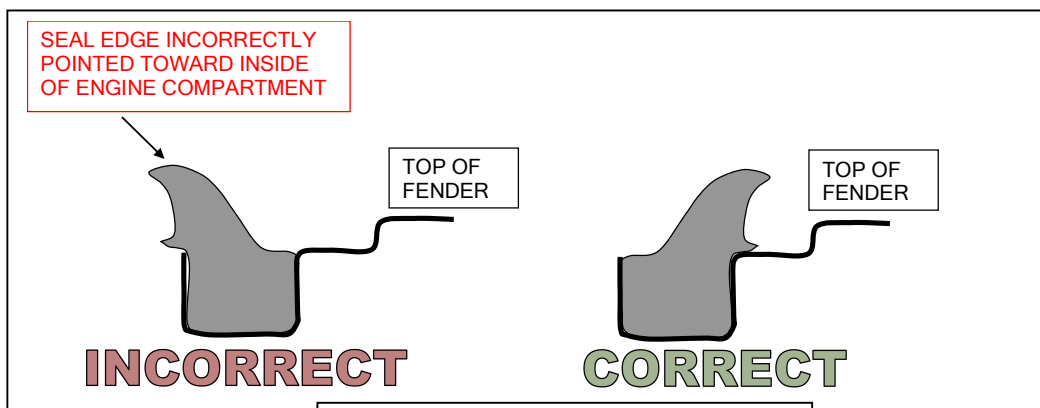

FIGURE 3. - Weatherstrip orientation.
3. The weatherstrip is installed with the top curved surface pointed inward toward the engine compartment opening instead of pointing outward. See Figure 3.